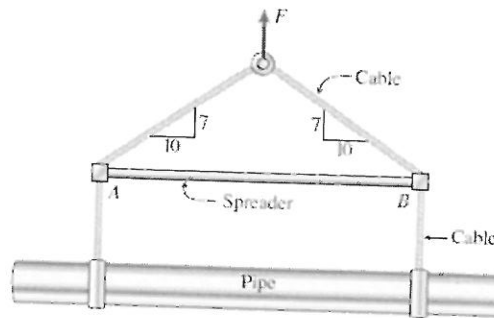

Figure Q2: A hoisting arrangement for lifting large pipes
- 2.2 The hoisting arrangement for lifting a large pipe is shown in the Figure Q2. The spreader is a steel tubular section with outer diameter 70 mm and inner diameter 57 mm. Its length is 2.6 m and its modulus of elasticity is 200 GPa. Based upon a factor of safety of 2.25 with respect to Euler buckling of the spreader, what is the maximum